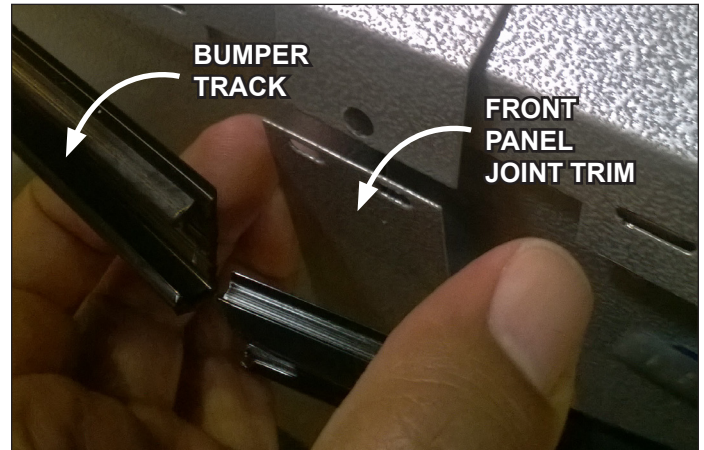

Fig. 7 Front panel trim is installed behind bumper track
5. Properly align the front panels as needed, then install the front panel trim (supplied) behind the loosened bumper track (Fig. 7).